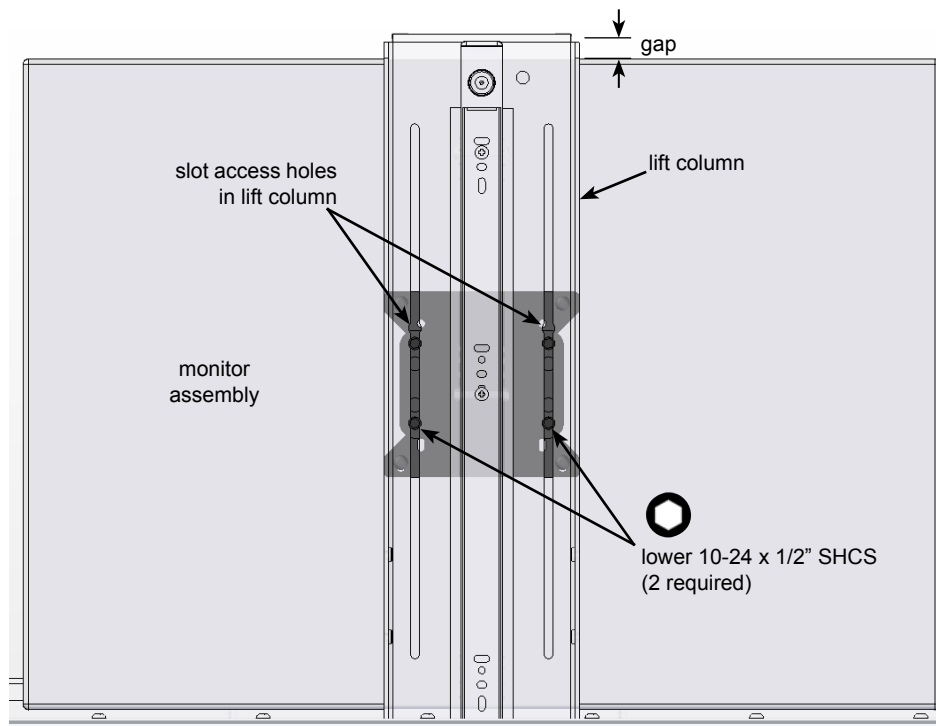

Figure 4B
3. Align the attached VESA mount with the lift column slots and insert the upper pair of 10-24 SHC screws through the slots using the access holes provided near the center of the slots. **Figure 4B.**
5. Locate the monitor assembly at the desired height on the lift column then tighten all (4) 10-24 SHC screws. If the monitor is located near the very top of the column, leave a small gap between the top of the monitor and lift bracket to provide enough clearance for the monitor to fully tilt. The gap distance needed will vary with monitor size.